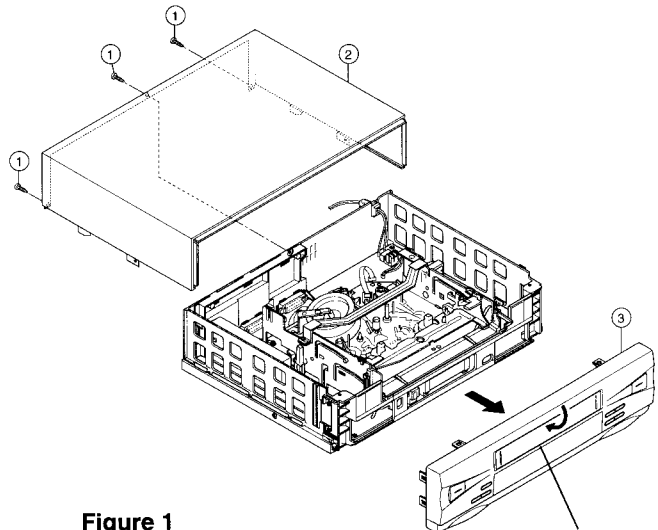

Figure 1
1. REMOVING THE TOP COVER AND FP ASSY (FIGURE 1)
- ① Remove the screws.
- ② Remove the Top Cover.
- ③ Remove the FP Assy, held in position by the eight prongs, the direction of arrow.